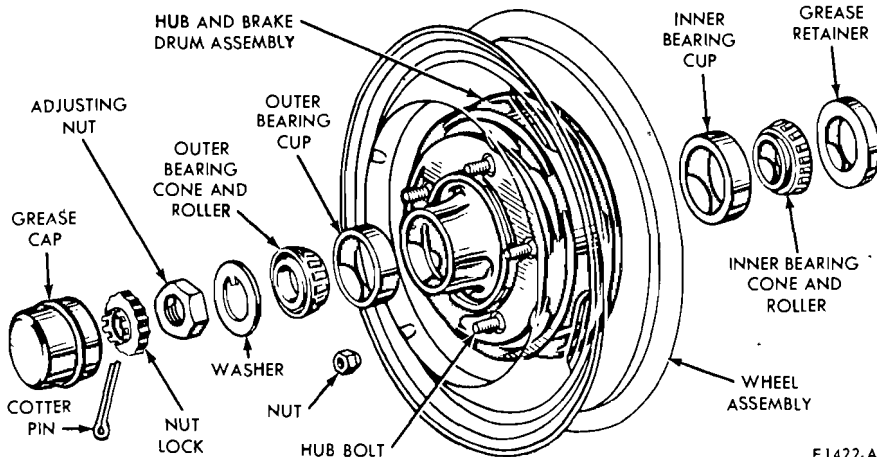

FIG. 1 Front Hub, Bearing and Grease Retainer Drum Brakes
Each front wheel and tire is bolted to its respective front hub and brake drum or rotor assembly. Two opposed tapered roller bearings are installed in each hub. A grease retainer is installed at the inner end of the hub to prevent lubricant from leaking into the drum or on the rotor. The entire assembly is retained to its spindle by the adjusting nut, nut lock and cotter pin (Figs. 1 and 2).
2. Pry off the hub cap or wheel cover and remove the grease cap (Fig. 1) from the hub.